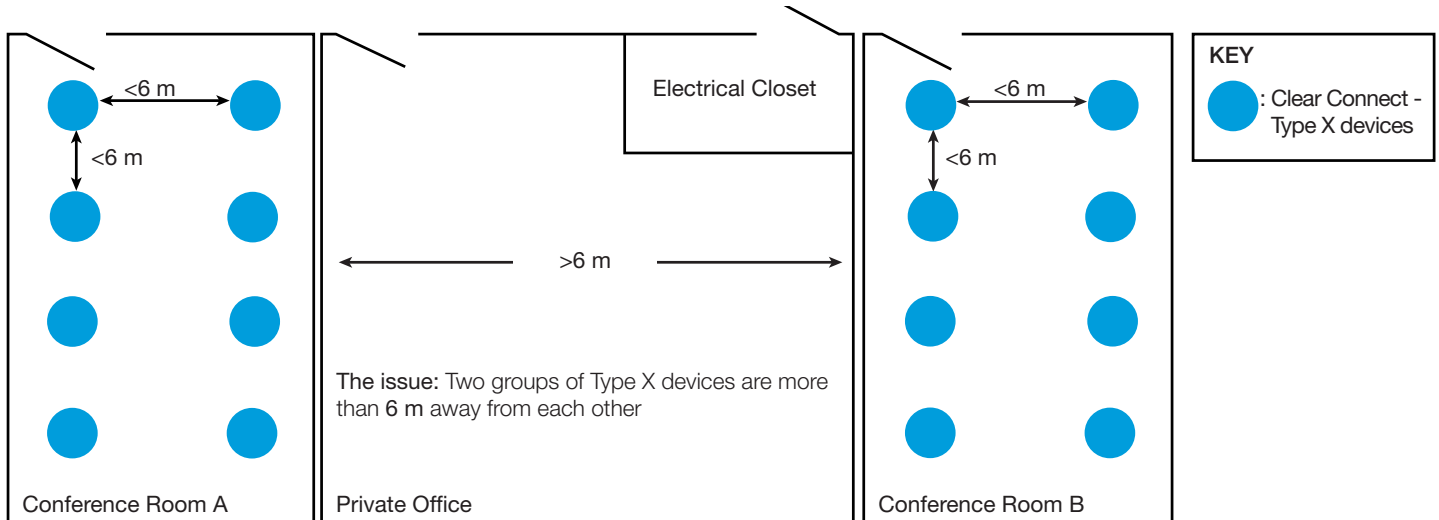

Figure 4 - Example of a problematic installation. Two groups of lamps separated by more than 6 m.
- Within a subnet, groups or clusters of devices must not be separated by greater than 6 m. See Figure 4 for more details.
Figure 4 shows a project deploying sixteen Type X devices in two conference rooms. However, these separated groups of Type X devices can cause a problem with the formation of a robust mesh. You can see that the conference rooms are more than 6 m apart forming two separate groups of Type X devices that otherwise adhere to all other design rules (two devices within 6 m and all devices in a 23 m perimeter). There are three ways this can be addressed, as described and illustrated below: